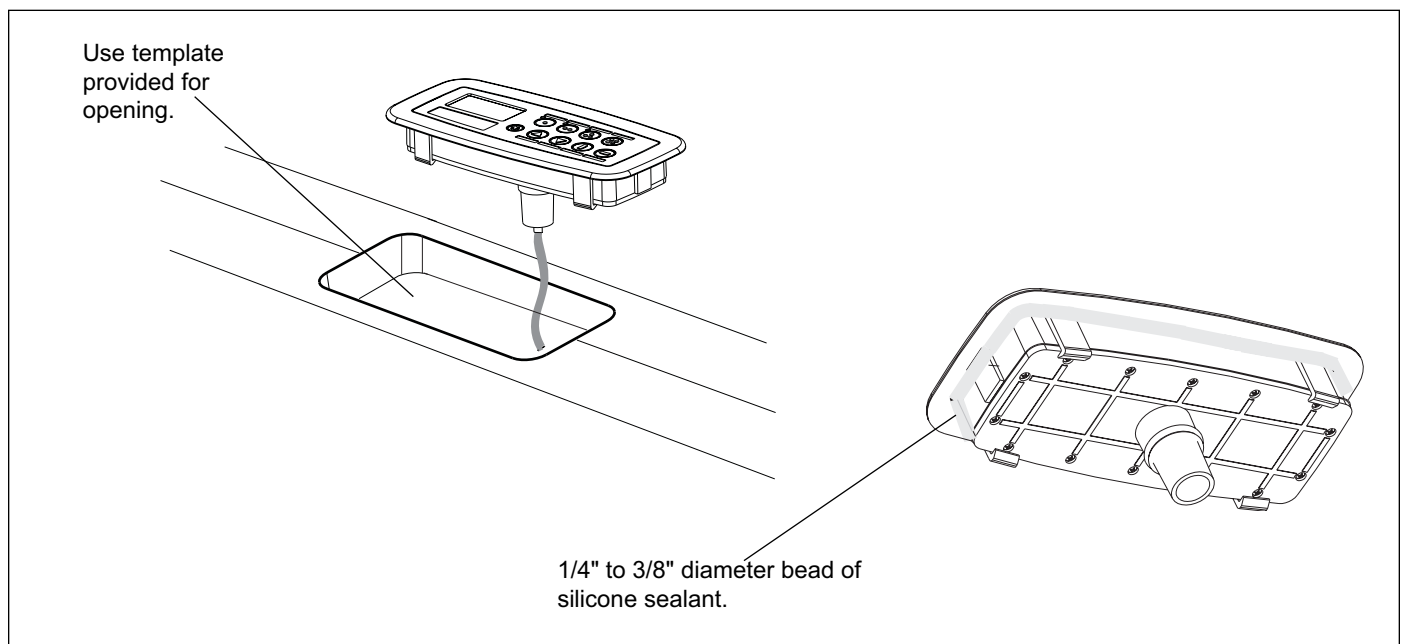

Figure 3. Flush Mount Installation on a Wood Deck
3. Apply a 1/4" to 3/8" diameter bead of silicone sealant all around the part at the corner shown below in Figure 3. Position the SpaLink within the opening and temporarily tape the SpaLink control to the correct position. Allow 24 hours for the sealant to cure.